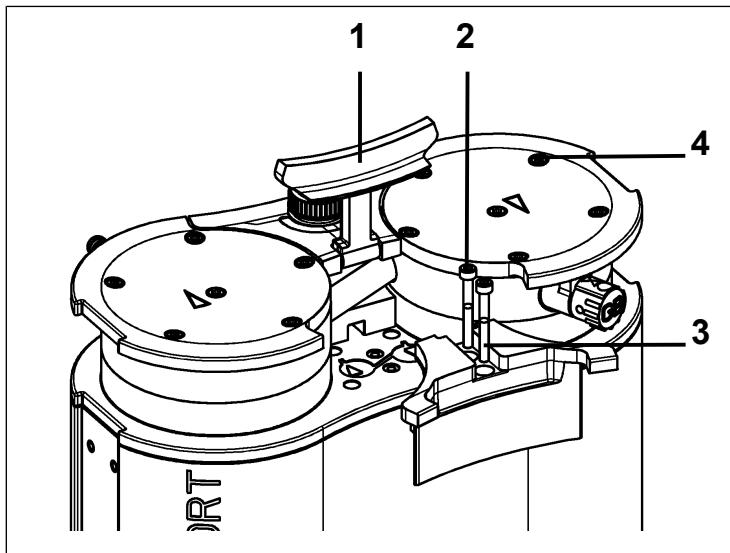

Fig. 9: Dismount cover
1. Move the handle (Fig. 9/1) into a vertical position.
2. Slacken the screws (Fig. 9/2) on the cover (Fig. 9/3).
3. Remove the cover (Fig. 9/3).
4. Slacken the cap screws (Fig. 9/4).
1. Use a felt-tipped marker to draw a continuous line on the pressure plate (2), head plate (3), and intermediate plate (5). This prevents the parts from being incorrectly mounted later on.
2. Slacken the external screws (Fig. 9/4) of the pump heads.